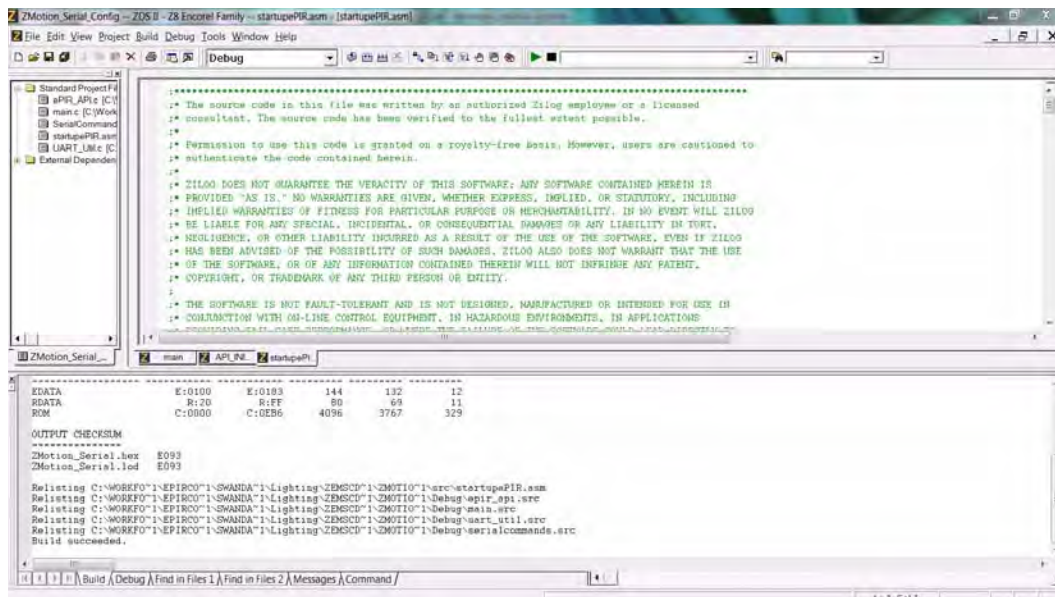
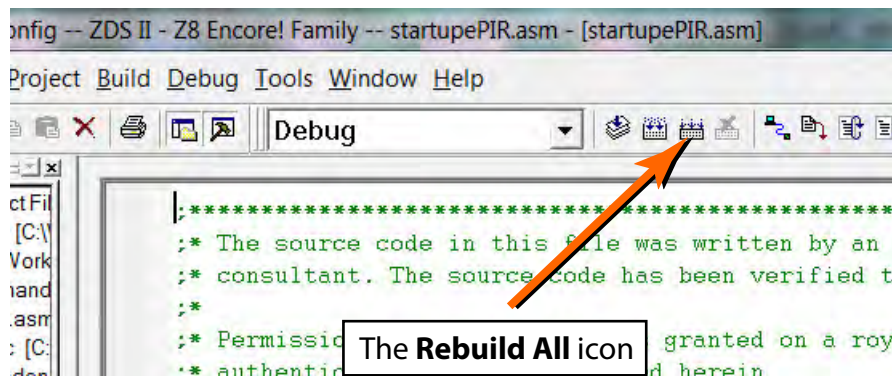

Figure 12. Building the ZMOTION_Serial_Config project in ZDSII
Figure 13. The Location of the Rebuild All Icon
3. Click the **Rebuild All** icon to build the project. The build output should not indicate any errors. If you receive errors, try reloading the projects from the original Application CD and ensure that the folders are not set to **Read Only**. See Figure 12 for an example; Figure 13 indicates the location of the **Rebuild All** icon in the ZDSII menu bar.